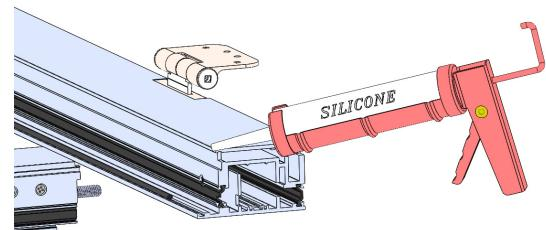

Figure 9:
- Apply sealant to the top and bottom rail where they make contact with the vertical stiles (Figure 9).